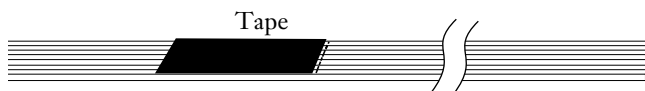

Figure 7
5.3 Wrap the ribbon at the mark with vinyl tape or a number marker to prevent excessive breakout of the ribbon (Figure 7).